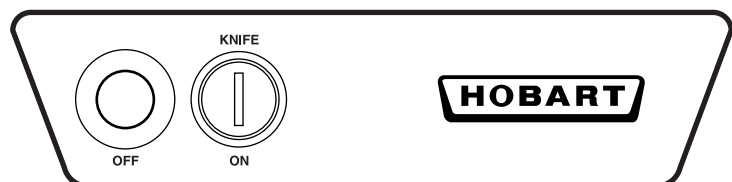
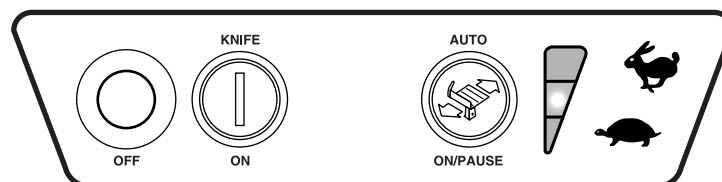

Fig. 9
Fig. 10
- Turn the slicer on by pressing the KNIFE ON button (Fig. 9).
- Turn the slicer on by pressing the KNIFE ON button (Fig. 10).
- Select one of the three speeds for the PRODUCT TRAY to move back and forth. Press the RABBIT symbol to increase speed; press the TURTLE symbol to decrease speed (Fig. 10). The speed indicator, located to the left of the symbols, shows which speed is selected. You can change the speed at any time.
- Press the AUTO ON / PAUSE button to start slicing (Fig. 10); the PRODUCT TRAY moves back and forth at the speed you have selected.
- When done slicing, you can stop by pressing either the AUTO ON / PAUSE button or the OFF button (Fig. 10). Pressing AUTO ON / PAUSE returns the PRODUCT TRAY to the home position (all the way toward you).
Remove the TOP KNIFE COVER and the plastic RING GUARD COVER. Turn the LATCH KNOB counterclockwise and lift the TOP KNIFE COVER and plastic RING GUARD COVER off the slicer (Figs. 5, 6 & 7). Thoroughly wash the area around the KNIFE and both sides of the outer rim of the KNIFE. Food debris should not be allowed to transfer from the KNIFE to the SHARPENER. Plug in the machine power cord. Press the KNIFE ON button (Fig. 9 or Fig. 10) with your right hand while pulling the SHARPENER LEVER fully forward with your left hand (Fig. 29). Sharpen for approximately 8 seconds. Release the SHARPENER LEVER. Press the OFF button.